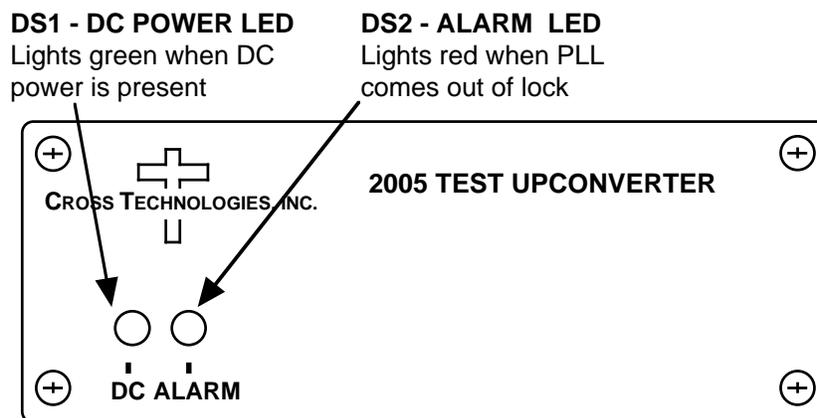

FIGURE 2.2 2005-23 Front Panel Controls and Indicators
2.2 Front Panel Indicators - Figure 2.2 shows front panel indicators for the 2005-23.
- 5.) Be sure DS1 (green, DC Power) is on and DS2 (red, Alarm) is off (Figure 2.2).